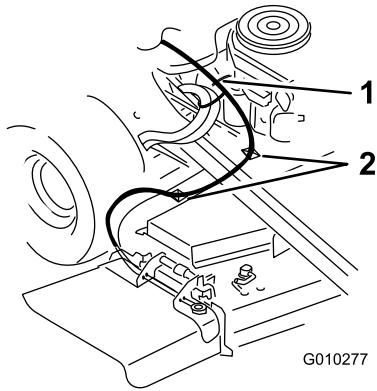
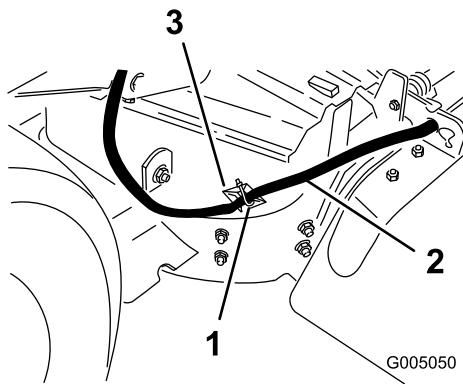

Figure 9
Figure 10
2. Fasten the cables to the engine deck and mower deck with a plastic ties and adhesive back mounts (Figure 9 and Figure 10).